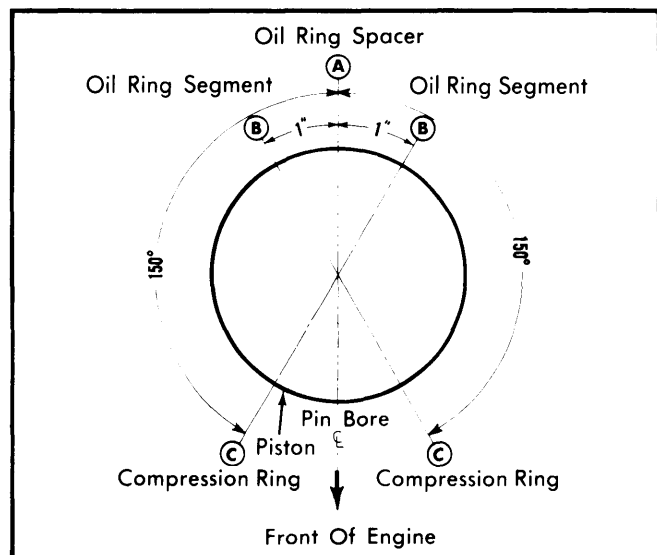

Fig. 11 Correct Spacing For Piston Rings
**Installation** — 1) Lightly coat cylinder bore, piston and rings with engine oil. Ensure that ring gaps are properly spaced as shown in Fig. 11. Install a ring compressor on piston.